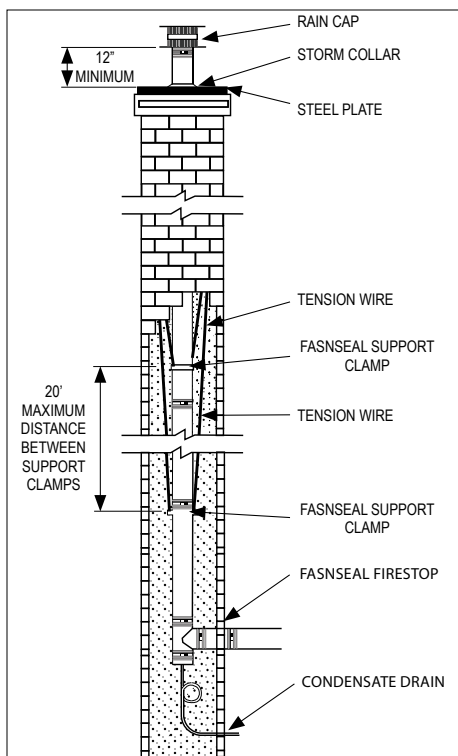
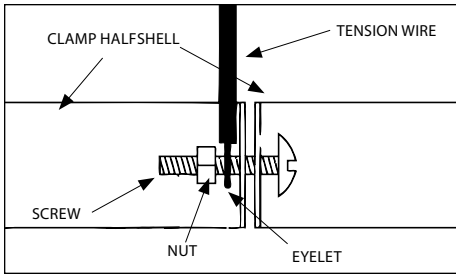

Figure 7
Figure 9
As an alternative method to supporting installations that pass through a masonry chimney, a series of tension wires and FasNSeal support clamps can be used. Refer to **Figure 7** for a typical installation. It is critical to use enough clamps and proper bracing to safely support the weight of the entire vertical stack. DuraVent, also recommends the use of a FasNSeal drain fitting at the base of the vent.
2. Install a FasNSeal support clamp at the base of the vent stack. The first support clamp should be located directly below the upper joint on the bottom most straight vent length (**Figure 7**). Refer to **Figure 9** for the proper method of securing tension wires to the FasNSeal support clamp. Do not fasten the cable between the clamp half-shells. This will prevent the clamp from gripping the vent stack properly